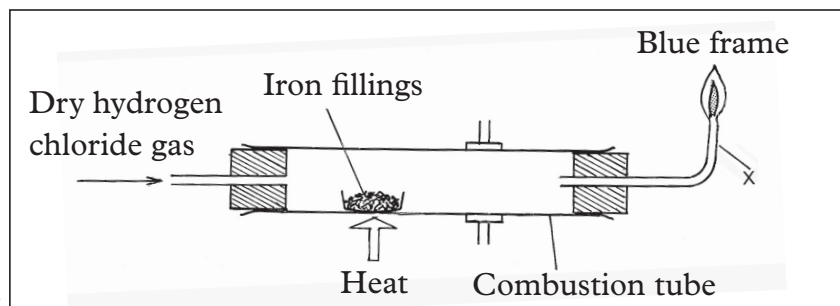

Fig 4.15: Reacting metals with hydrogen chloride
1. Set up the apparatus as shown in fig 4.15.